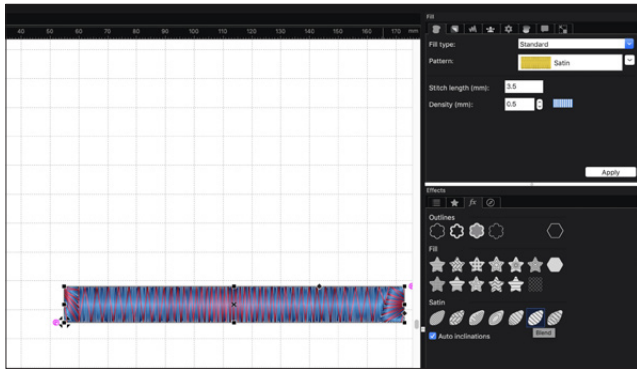

Figure 65
3. Scroll down to the Satin Stitch section and select the Blend Satin Stitch effect, which will create a different colored stitch on top of the existing stitch to create a blended effect. **See Figure 65.**